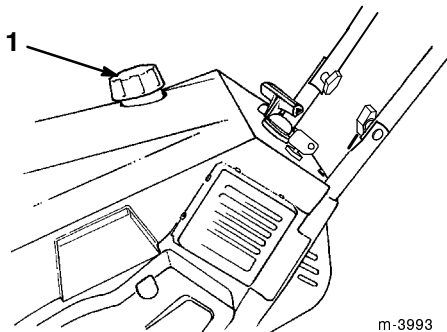

Figure 5
1. Clean around the fuel tank cap (Fig. 5)